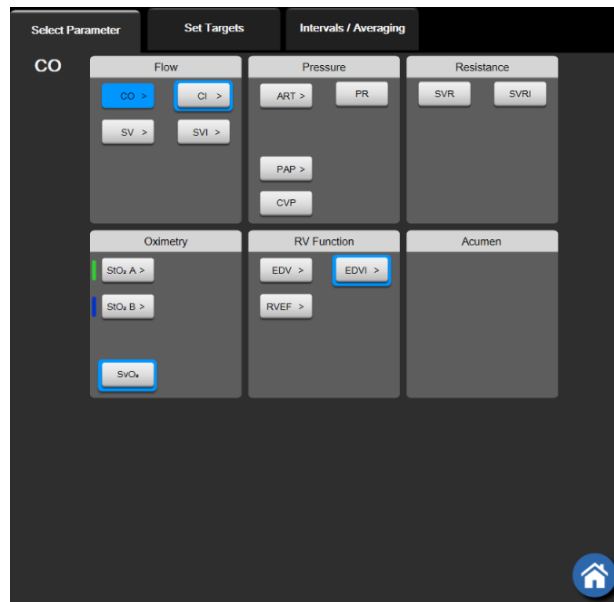

Figure 5-4 Example of key parameter selection tile configuration menu
- 2 The tile configuration menu will show the selected parameter highlighted in color and other parameters currently being displayed outlined in color. Available parameters appear on the screen without highlights. Figure 5-4 shows the parameter selection tab of the tile configuration menu that will appear while selecting continuous parameters and monitoring with the HemoSphere Swan-Ganz module. The appearance of this window while monitoring with other HemoSphere modules or cables varies from what is shown in figure 5-4.
Parameters are organized into categories. The categories available are based on the current monitoring mode. Categories, listed below, are grouped together on the parameter selection configuration menu. See figure 5-4.